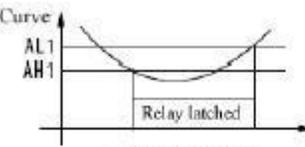

Fig 2 Lower limited
3. Set AH1<AL1(AH2<AL2), when AH1 \geq measured value, the relay will latch; when measured value \geq AL1, the relay unlatched. This is for the "lower limited" configuration. See Fig 2